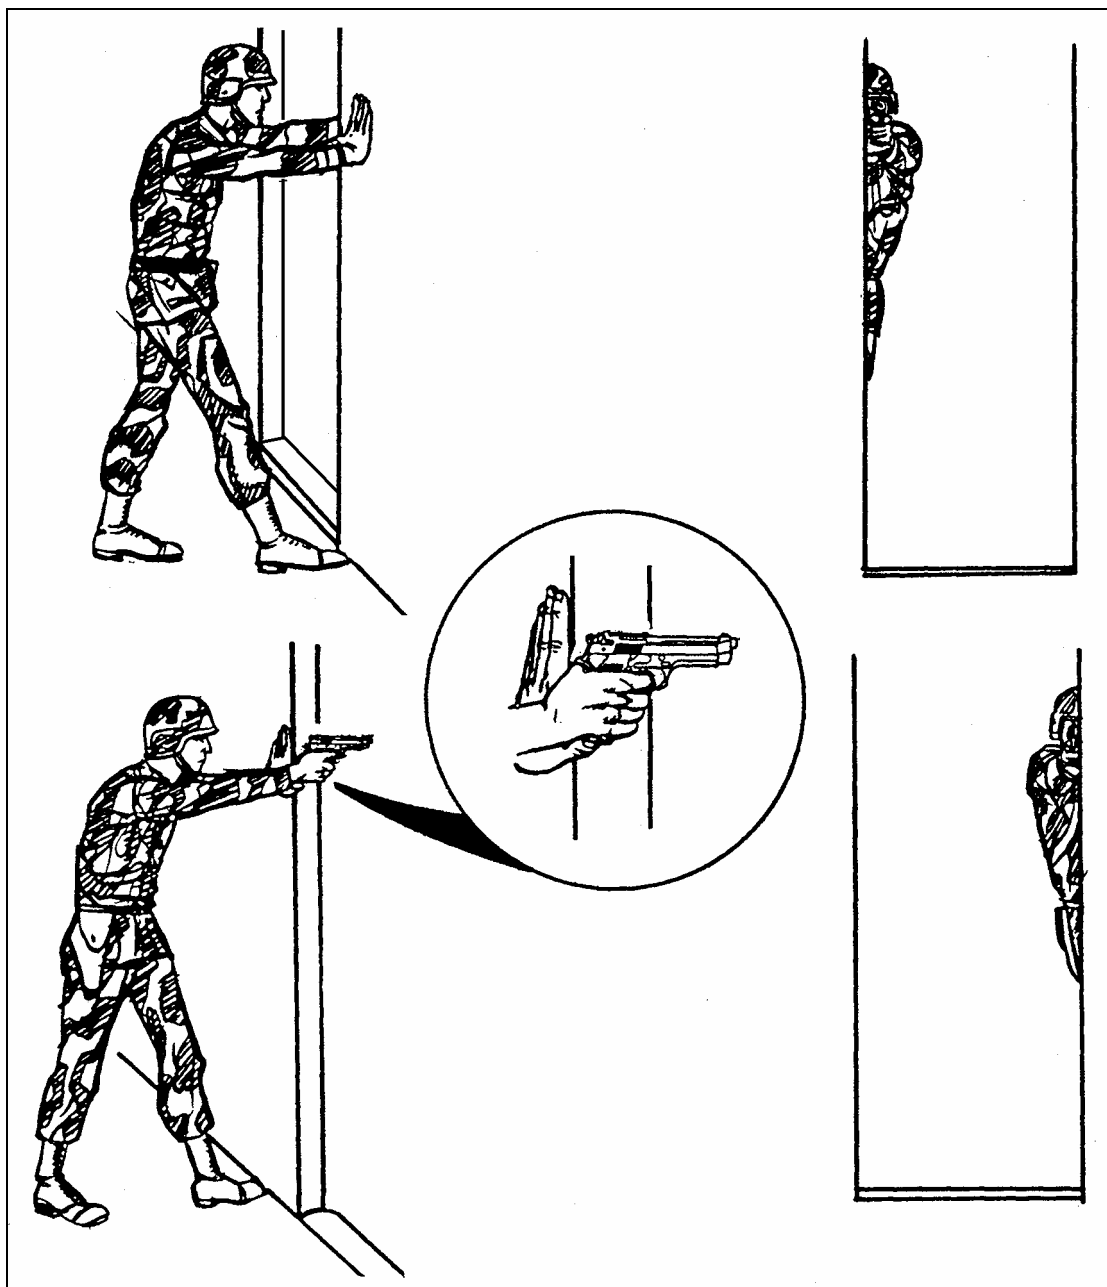

Figure 2-13. Standing position with support.
f. **Standing Position with Support.** Use available cover for support--for example, a tree or wall to stand behind (Figure 2-13). Stand behind a barricade with the firing side on line with the edge of the barricade. Place the knuckles of the nonfiring fist at eye level against the edge of the barricade. Lock the elbow and wrist of the firing arm. Move the foot on the nonfiring side forward until the toe of the boot touches the bottom of the barricade.